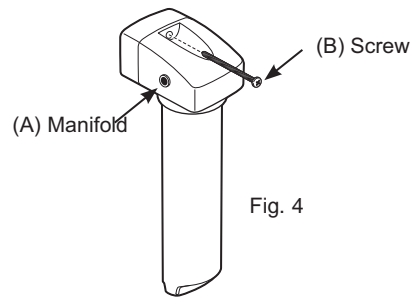

Fig. 4
A. PREFERRED INSTALLATION (Mounting Using the Screw Provided [Fig. 4])
3. Use the screw (B) provided to mount through the screw hole in the center of the manifold (A). (Pre-drill a 1/16" pilot hole, if needed).